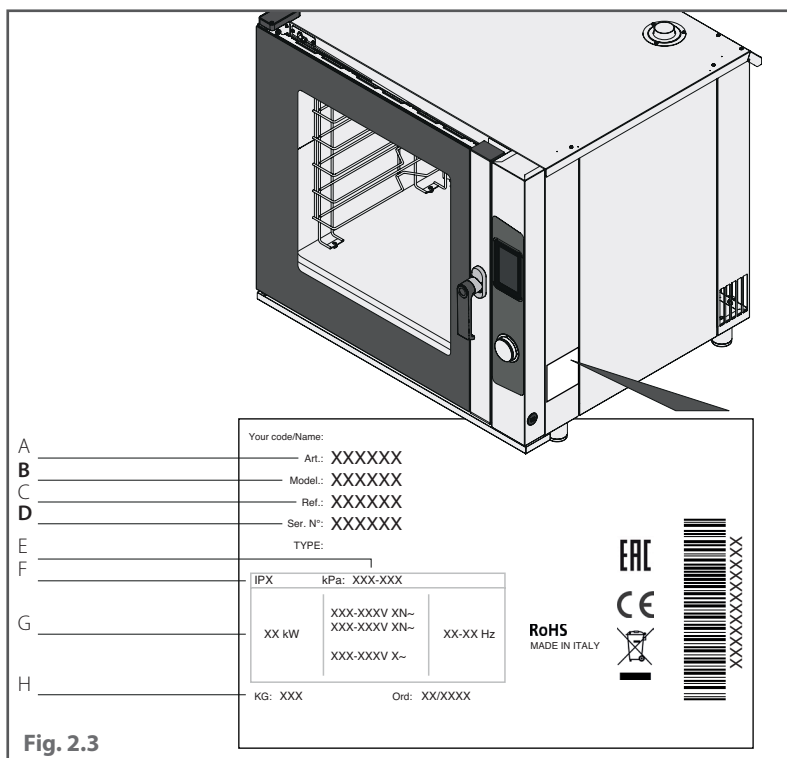

Fig. 2.3
- Before installing the appliance, check that the systems are compliant with the regulations in force in the country where the appliance is used and with the specifications on the appliance technical data plate ► **Fig. 2.3** .
- make a note of the equipment data found on the technical data plate ► Fig. 2.3;
► Fig. 2.3